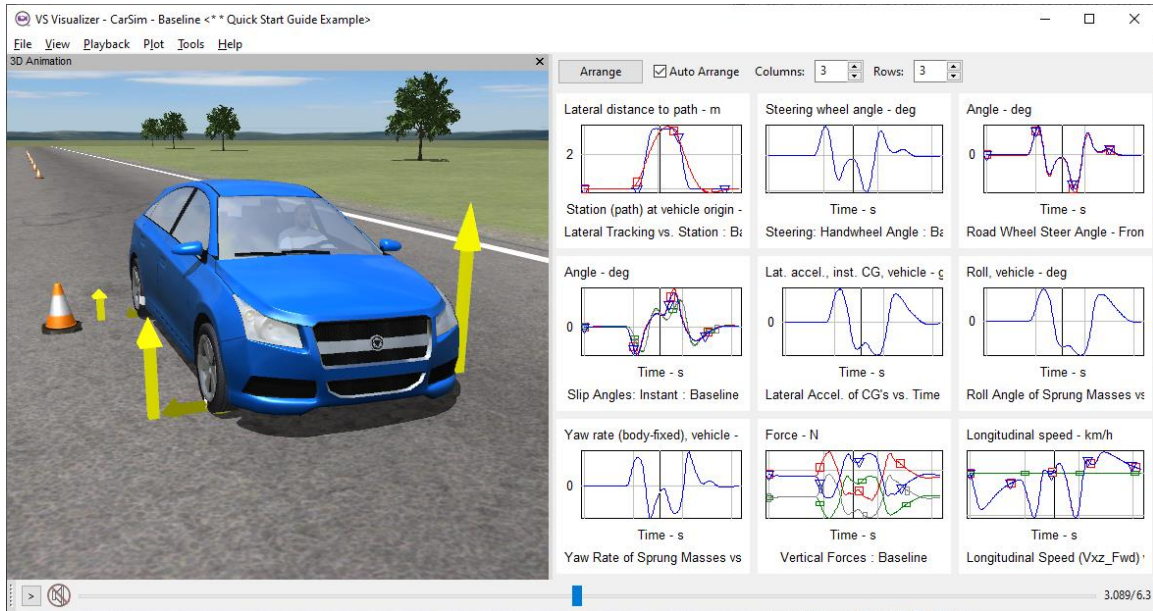

Figure 2. Viewing synchronized video and plot of CarSim vehicle response with VS Visualizer.
Plots and Visualization: CarSim includes VS Visualizer, a tool for providing high-quality animation of simulation results corresponding to engineering plots of hundreds (or sometimes thousands) of variables from the math model (Figure 2). Time-synchronization of the plots and video facilitates the viewing of both qualitative and quantitative data, and the option to overlay multiple runs (up to six total) allows for comparisons of various vehicle and control combinations.
Clicking the **Video + Plot** button (11) to launch VS Visualizer will bring up a window showing a camera view and a grid of plots (Figure 2, page 3).